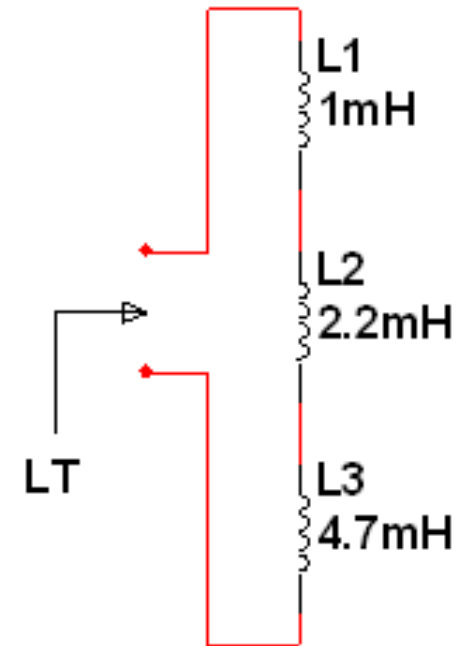
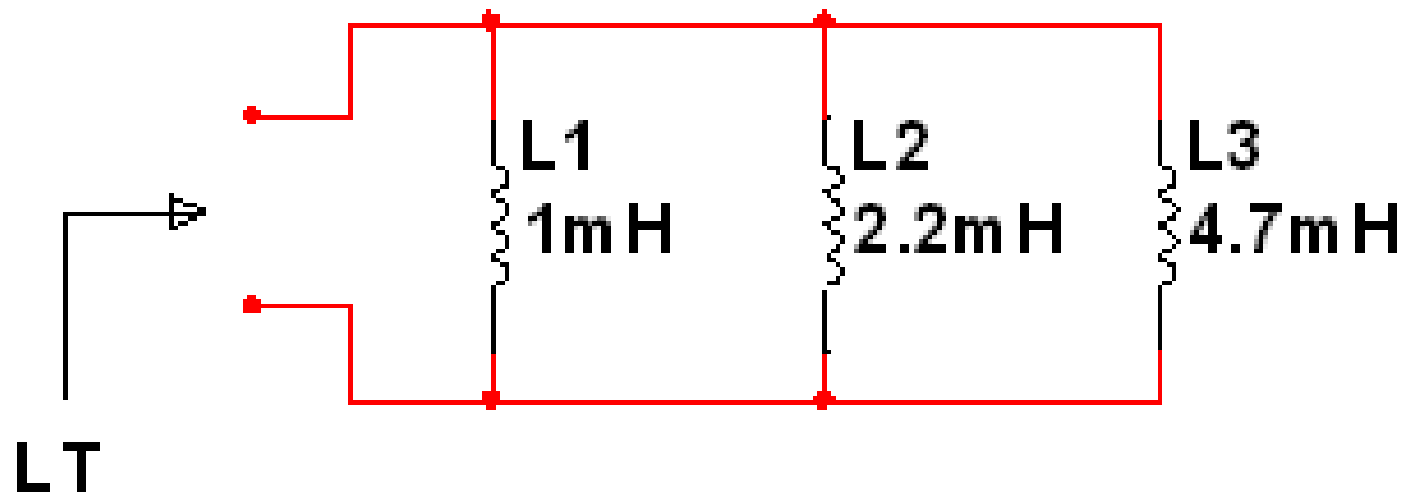

Figure 1
Figure 2
- MEASURE AND RECORD THE INDUCTANCE OF EACH INDUCTOR USING THE LCR METER. CONNECT THE INDUCTORS AS SHOWN IN FIGURE 1 AND MEASURE AND RECORD THE TOTAL INDUCTANCE, L_T . THEN CONNECT THE INDUCTORS AS SHOWN IN FIGURE 2 AND MEASURE AND RECORD THE TOTAL INDUCTANCE, L_T .